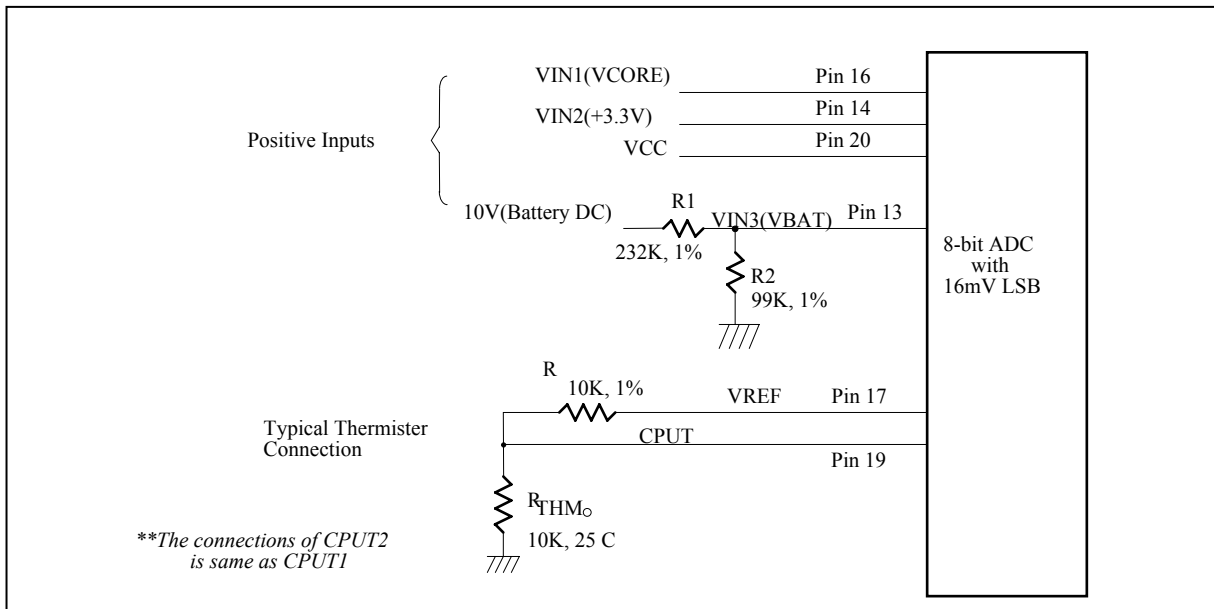

Figure. 10.
The maximum input voltage of the analog pin is 4.096V because the 8-bit ADC has a 16mv LSB. Really, the application of the PC monitoring would most often be connected to power suppliers. The CPU V-core voltage and +3.3V voltage can directly connected to these analog inputs. The 5VSB and battery inputs should be reduced a factor with external resistors so as to obtain the input range. As Figure 10 shows.
The W83L784R/G can connect three thermistors to measure three different environment temperature. The specification of thermistor should be considered to (1) β value is 3435K, (2) resistor value is 10K ohms at 25°C. In the Figure 10, the themistor is connected by a serial resistor with 10K Ohms, and then connect to VREF (pin 17).